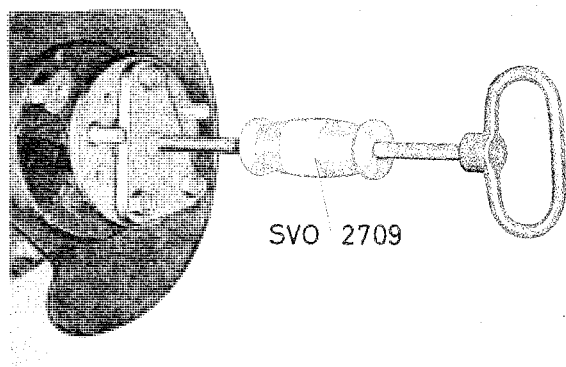

Fig. 4-131. Drive shaft removal
3. Slacken the bolts for the thrust washer. These are slackened through the holes in the drive shaft flange. Pull out the drive shaft with puller 2709, see Fig. 4-131.
2. Release the bolts for the brake backing plates and brake shoe retainers. They are slackened through the holes in the drive shaft flanges. Pull out the drive shafts with puller 2709, see Fig. 4-131.